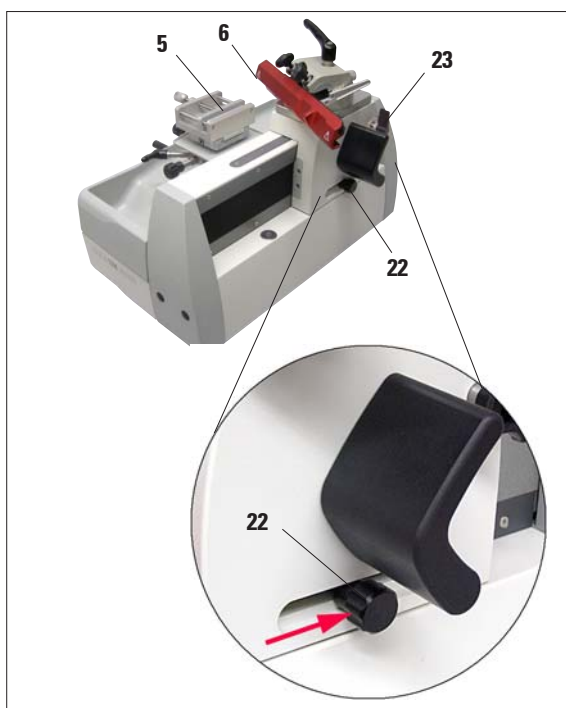

Fig. 25
- To adjust the automatic feed, move the blade/knife (6) until it is just in front of the specimen (5) (Fig. 25) and lock it in this position using the locking knob (23).
- Loosen the adjusting button (22) and push it back until you can feel resistance. Retighten it in this position.
If the adjusting button is locked in the frontmost (left) position (Fig. 25), there is no feed motion.